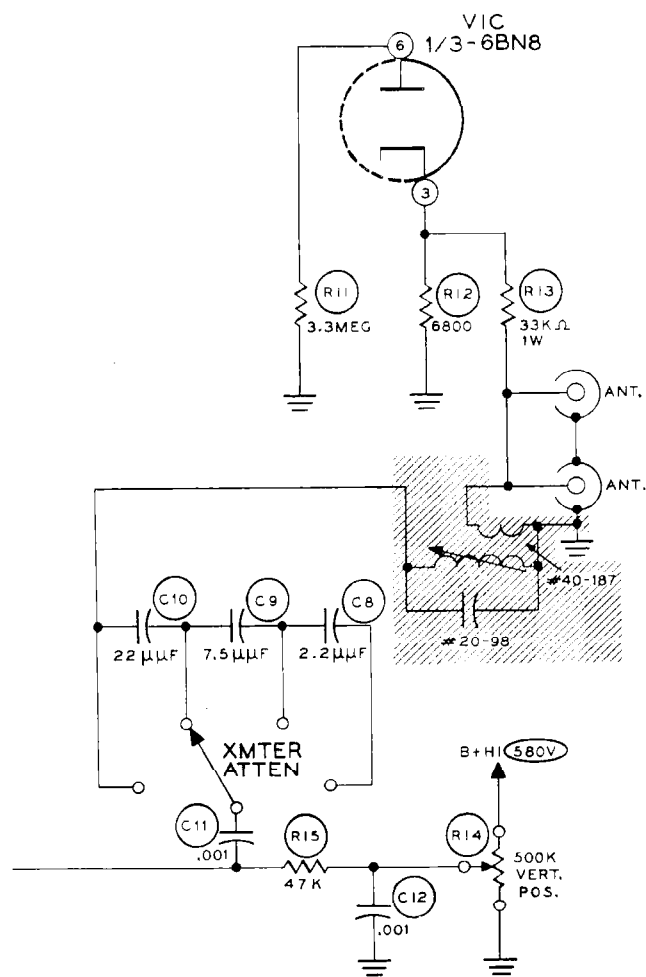

Figure 7
(FIGURE 7)**
1. Install a coil and capacitor in the Scope vertical input circuit as shown in Figure 7. The coil and capacitor can be obtained from Heath Company. Their part numbers are coil #40-187 and capacitor #20-98.